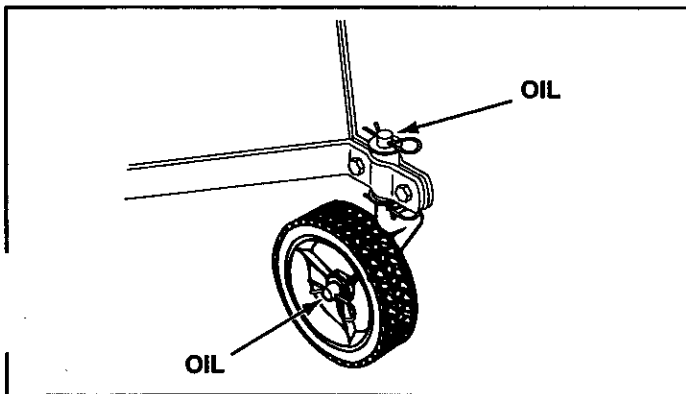

FIGURE 15
- Before each use apply a small amount of motor oil between washer and wheel bearing and between washer and top of pivot sleeve. See figure 15.